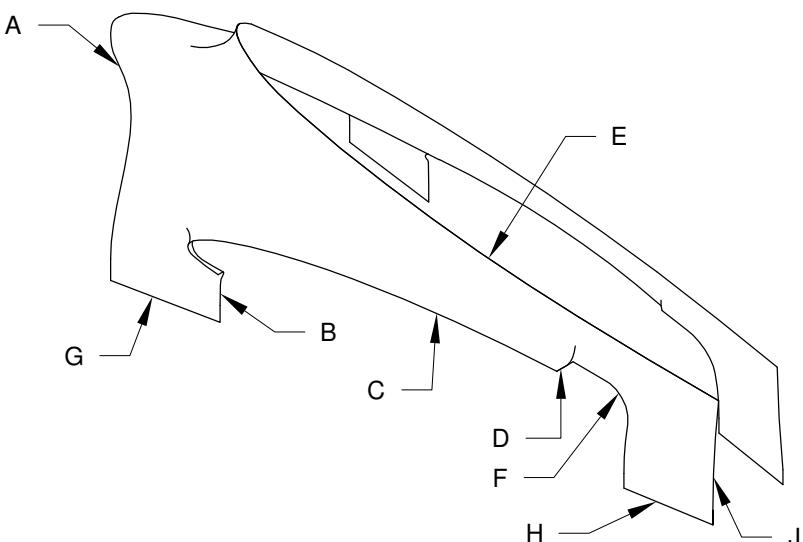

FIGURE 1: EMPENNAGE FAIRING TRIM
Step 2: Trim the F-1094B Empennage Fairing, edge A as shown in Figure 1 to meet the scribe line in the part for this edge.
Step 4: Mark the F-1094B Empennage Fairing for trimming. See Figure 1 for edge callouts. Mark edge B flush with the front edge of the F-1094A Empennage Gap Cover. Edge C is indicated by a scribe line, check that this line will provide enough screw hole edge distance and remark the line if necessary. Edge C is parallel to the inboard edge of the HS-1001 Horizontal Stabilizer Skin but different widths at the forward and aft edges. Mark edge D flush with the aft top edge of the horizontal stabilizer skin. Edge E is indicated by a scribe line, check that this line will provide enough edge distance and remark the line if necessary. Edge E should parallel the aft lower edge of the VS-1001 Vertical Stabilizer Skin and then curve upwards towards leading edge of the vertical stabilizer assembly. Mark edge F as shown in Figure 3 to provide a minimum 1/4 clearance between edge F and the WD-605L/R Elevator Horns with the elevator assembly rotated through its full range of motion. Mark edges G and H even and parallel with the lower edge of the F-1073 Tailcone Aft Top Skin and empennage gap cover. See Figure 3. Mark edge J even with the aft edge of the F-1073 Side Skins and vertical stabilizer skin.
Step 5: Machine countersink the four holes (two per side) along edge G (see Figure 1) on each side of the aircraft, for the head of a #6 flush head screw. Working from the aft towards the front final-drill #27 and **carefully** machine countersink all holes in the empennage fairing along edges C and E, the aft most hole along edge H on the right and left sides of the aircraft and the three most forward fastener locations, for the head of a #6 flush head screw. Remove F-1094B Empennage Fairing. Trim away excess material.